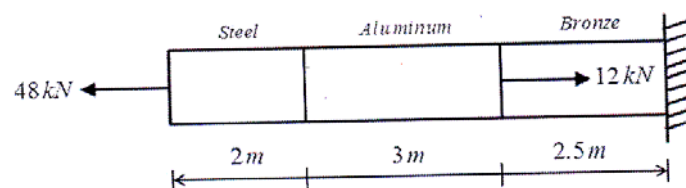

Figure 2
c) A rod is composed of an aluminum section rigidly attached between steel and bronze as shown in Figure 2. If the cross-section area of rod is 800 mm2 determine nodal displacements. Take  $E_{st} = 210$  GPa,  $E_{Al} = 70$  GPa and  $E_{br} = 110$  GPa. [8]